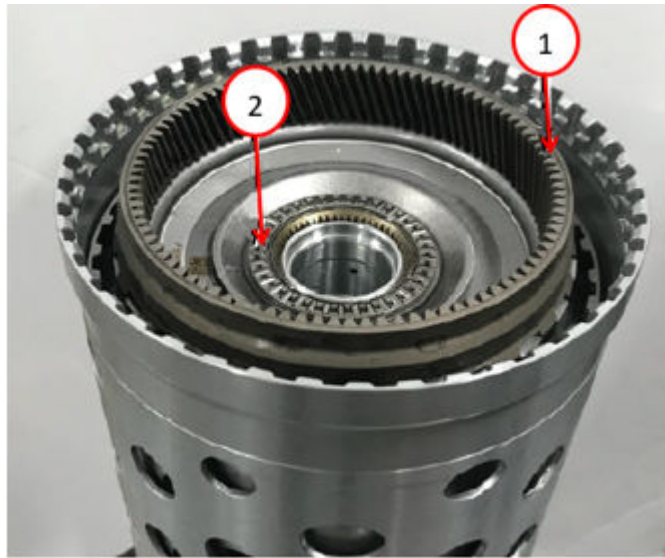

Fig. 29
44. Install the input shaft with P2 planetary carrier into the drum assembly Fig. 29.